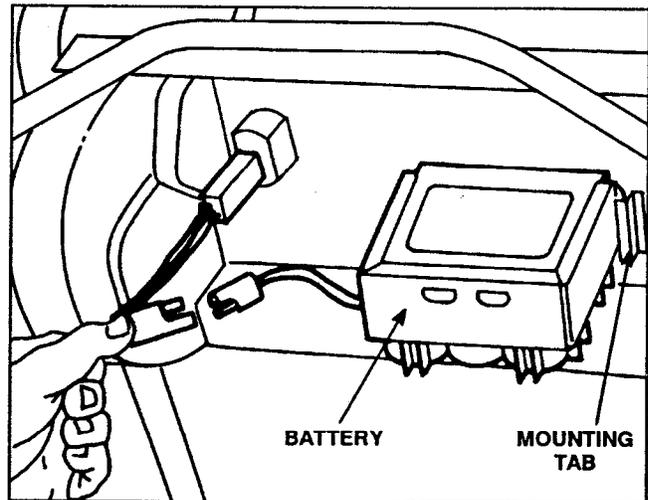

Figure 3
1. CHARGE BATTERY—Refer to Charging Battery, page 14. Slide battery, decal side up, between mounting tabs on back of control panel and connect wires (Fig. 3). Insert key into switch when ready to start engine.